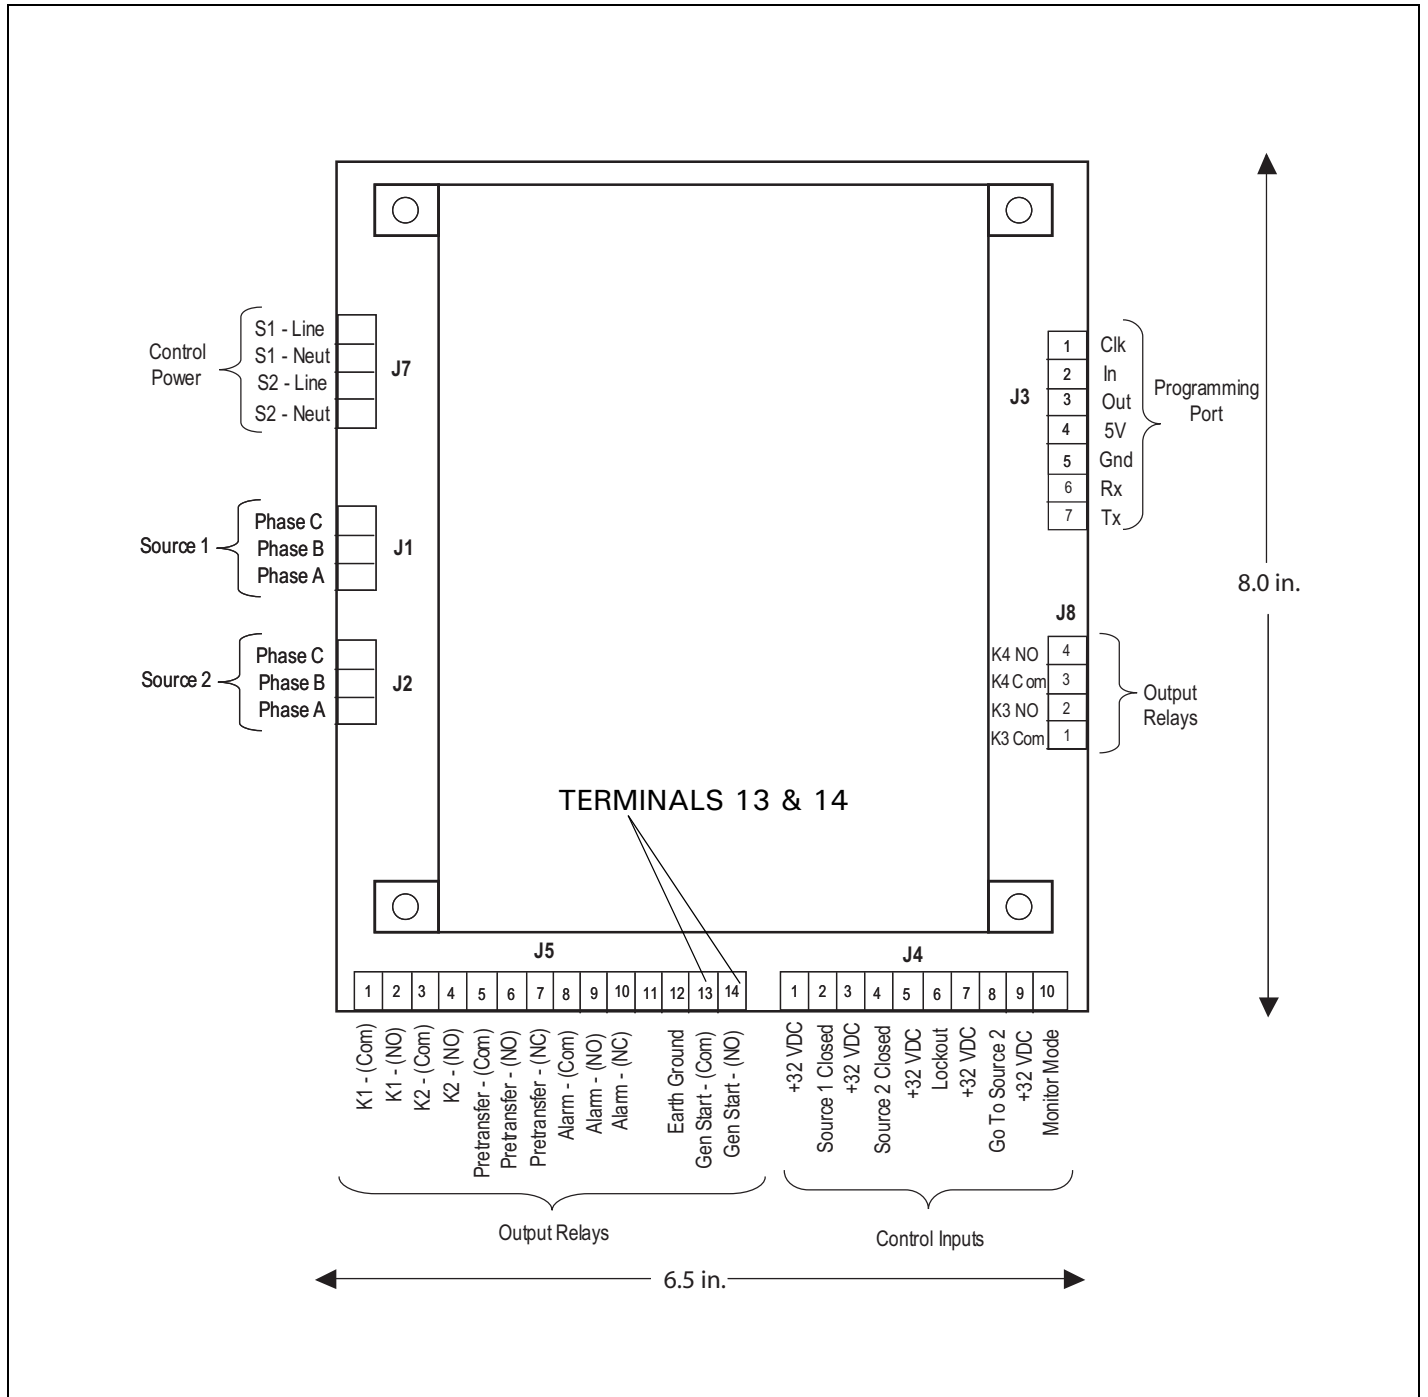

Figure 40.Engine Generator Control Connection
- Step 4:** Connect the Engine Generator Start wires to terminals 13 and 14 on the J-5 connector on the ATC-300 Controller (Figure 40). This contact is CLOSED whenever the engine generator is needed, and should be connected to a generator controller. **NEVER** connect directly to a starter solenoid or ignition system. See the Genset manufacturer instruction leaflet for recommended wire sizes and location procedures.